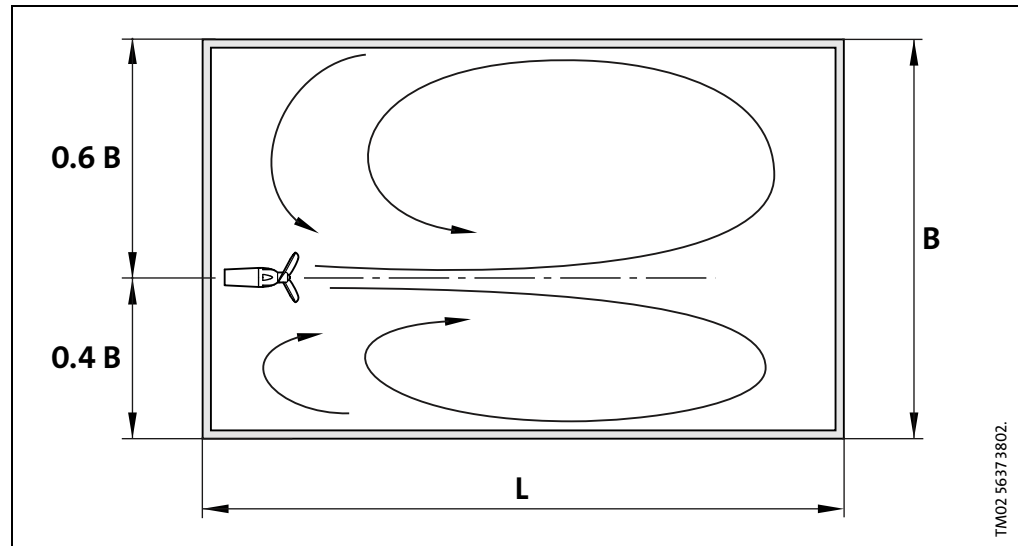

Fig. 17 Solids are kept suspended in the liquid of a rectangular tank
- that a steady, circulating flow is generated, preventing sedimentation of solids (see Fig. 17), or